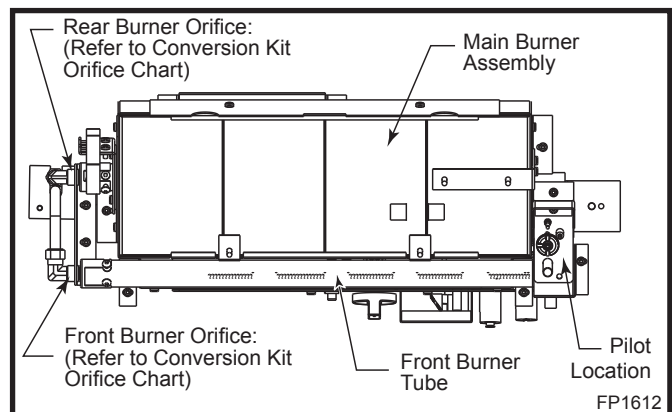

Fig. 85 Remove burner assembly.
2. Remove burner orifice from manifold assembly using 7/16" wrench. (Fig. 85)